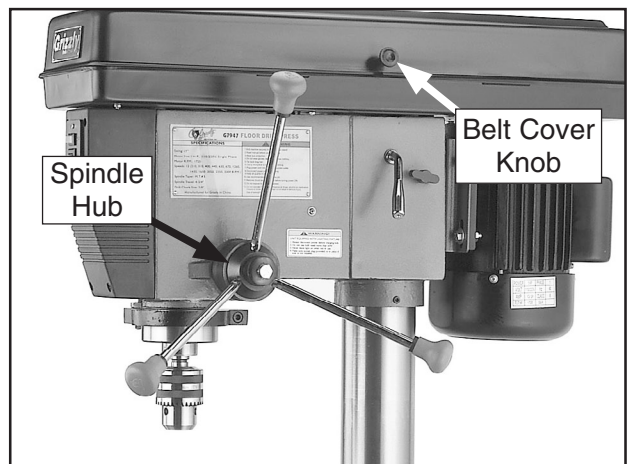

Figure 18. Downfeed handles and belt cover knob installed.
1. Thread the handles into the spindle hub, as shown in **Figure 18**, and tighten.
2. Remove the screw that fastens the belt cover in place and install the belt cover knob in its place (see **Figure 18** for location).